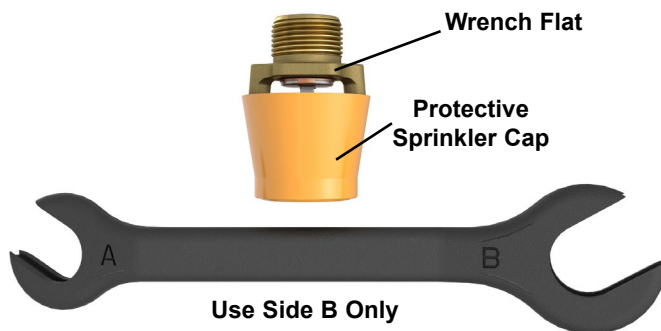

Figure 1:
- D. **Use ONLY sprinkler wrench 13635WB (shown in Figure 1) for installing ESFR Sprinkler VK503! With the sprinkler contained in the protective cap, install the sprinkler onto the piping by applying the sprinkler wrench to the sprinkler wrench flats only, while taking care not to damage the sprinkler operating parts.**